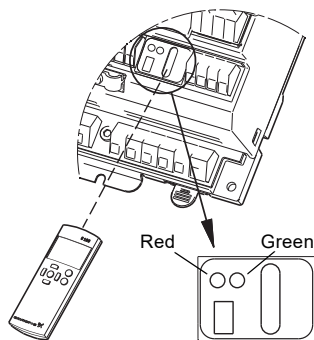

Fig. 7 R100 and indicator lights
1. Point the R100 against the IO 351 and press [OK]. See fig. 7.
See fig. 7.